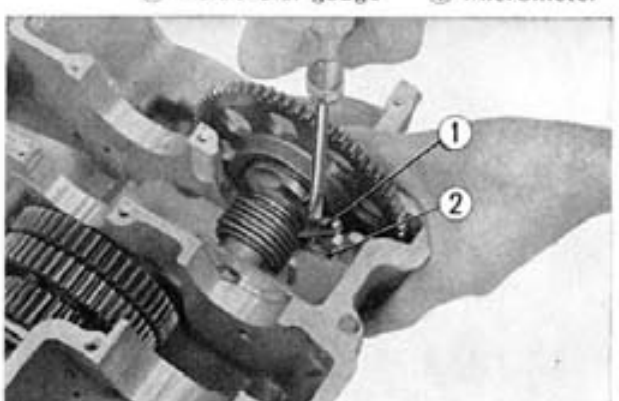

Fig. 3-95 ① Kick starter flange
1. Assemble the kick gear, kick starter flange and return spring together into the lower crankcase. (Fig. 3-95)